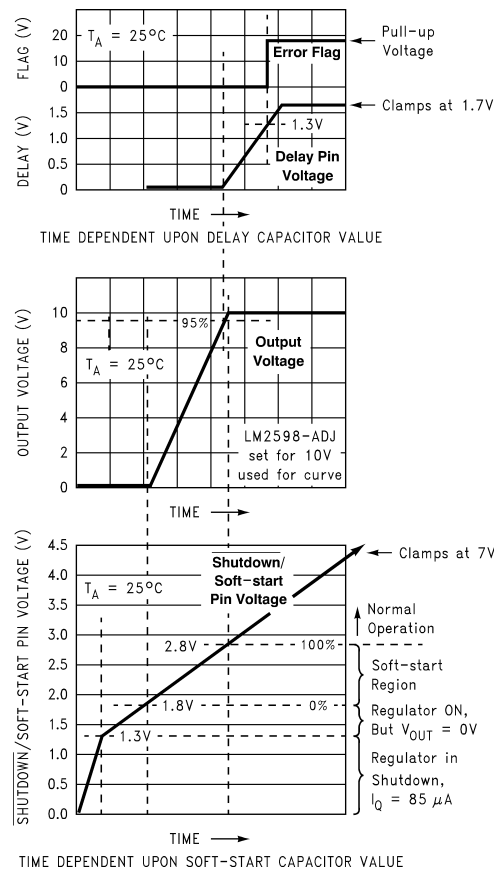
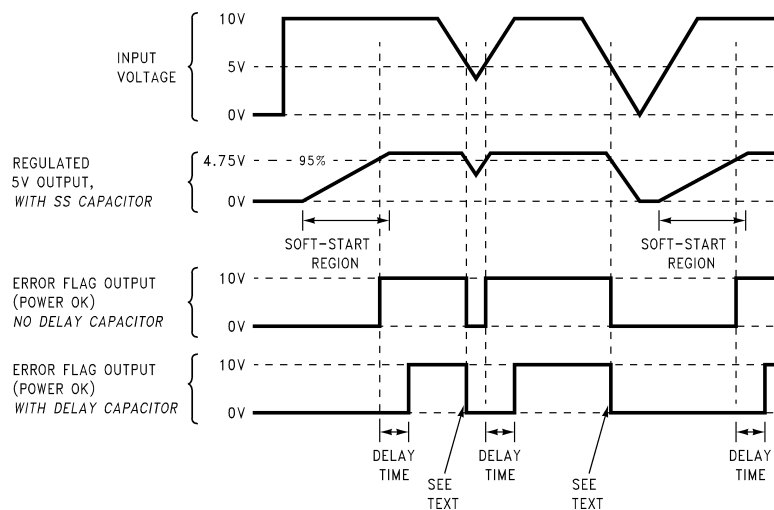

Figure 28. Soft-start, Delay, Error, Output
Figure 29. Timing Diagram for 5-V Output
A capacitor on this pin provides the regulator with a Soft-start feature (slow start-up). When the DC input voltage is first applied to the regulator, or when the Shutdown/Soft-start pin is allowed to go high, a constant current (approximately 5 μ A) begins charging this capacitor). As the capacitor voltage rises, the regulator goes through four operating regions (See the bottom curve in Figure 28).
3. Soft-start region: When the $\overline{SD}/SS$ pin voltage is between 1.8 V and 2.8 V at 25°C, the regulator is in a Soft-start condition. The switch (Pin 1) duty cycle initially starts out very low, with narrow pulses and gradually get wider as the capacitor $\overline{SD}/SS$ pin ramps up towards 2.8 V. As the duty cycle increases, the output voltage also increases at a controlled ramp up. See the center curve in Figure 28. The input supply current requirement also starts out at a low level for the narrow pulses and ramp up in a controlled manner. This is a very useful feature in some switcher topologies that require large start-up currents (such as the inverting configuration) which can load down the input power supply.
Note: The lower curve shown in Figure 28 shows the Soft-start region from 0% to 100%. This is not the duty cycle percentage, but the output voltage percentage. Also, the Soft-start voltage range has a negative temperature coefficient associated with it.
Provides delay for the error flag output. See the upper curve in Figure 28, and also refer to timing diagrams in Figure 29. A capacitor on this pin provides a time delay between the time the regulated output voltage (when it is increasing in value) reaches 95% of the nominal output voltage, and the time the error flag output goes high. A 3- μA constant current from the delay pin charges the delay capacitor resulting in a voltage ramp. When this voltage reaches a threshold of approximately 1.3 V, the open collector error flag output (or power OK) goes high. This signal can be used to indicate that the regulated output has reached the correct voltage and has stabilized.